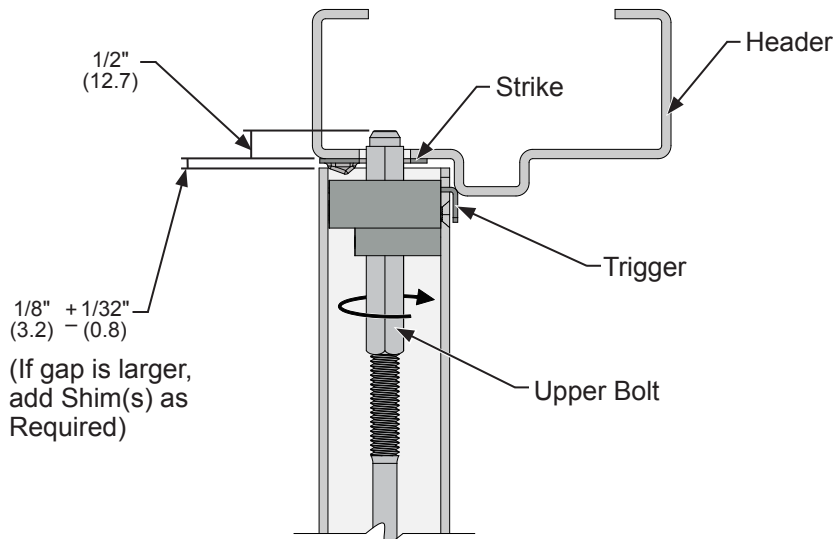

FIG. 21
2. Depress the push bar, The bottom and upper rods will retract. With the rods in this position adjust the bottom bolt using the adjustment wrench (L) included. Adjust the upper bolt 1/16" to 1/8" gap from the header. When the panic is in the released position the upper rod will extend 1/2" into the header. (Fig. 21)